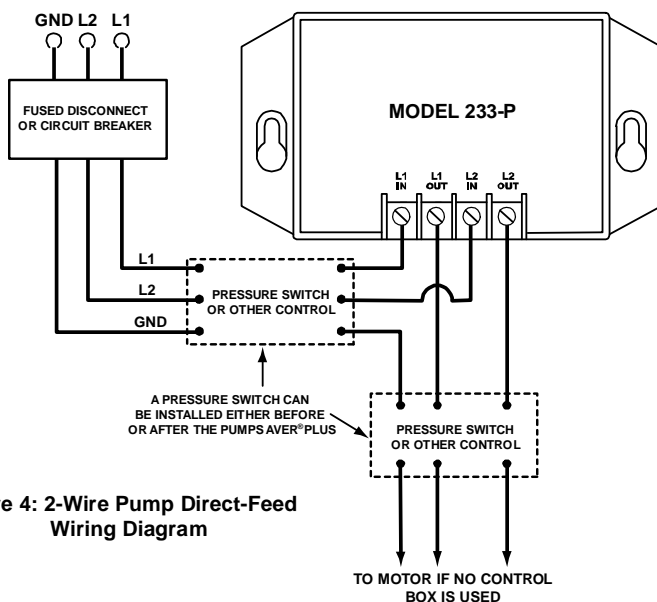

Figure 4: 2-Wire Pump Direct-Feed Wiring Diagram
- 2-Wire pump direct feed – Figure 4